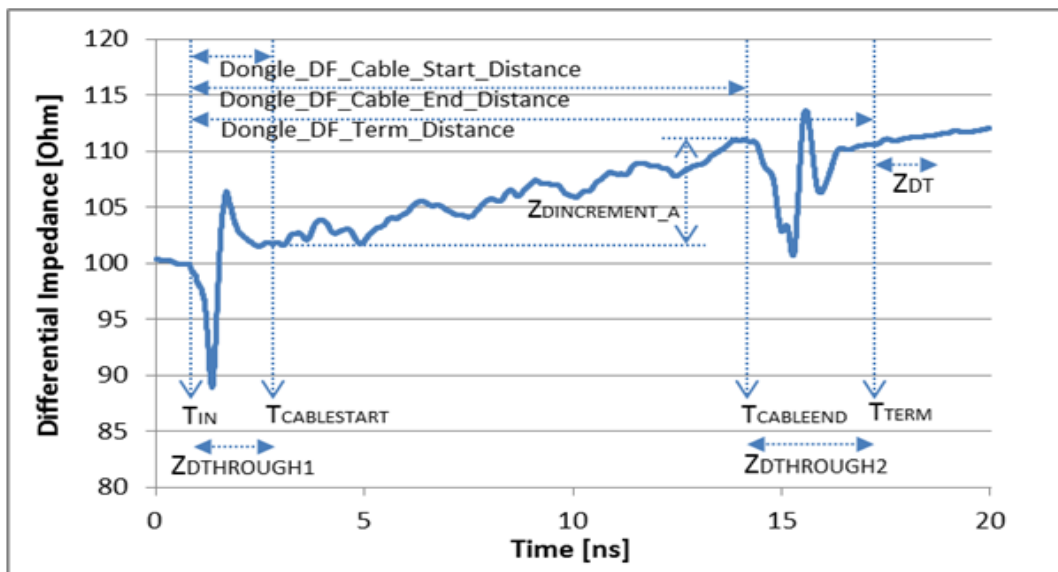

Figure 15 : Differneital Impedance Test symbology
9. Using figure15 as a guideline, measure dongle differential impedance